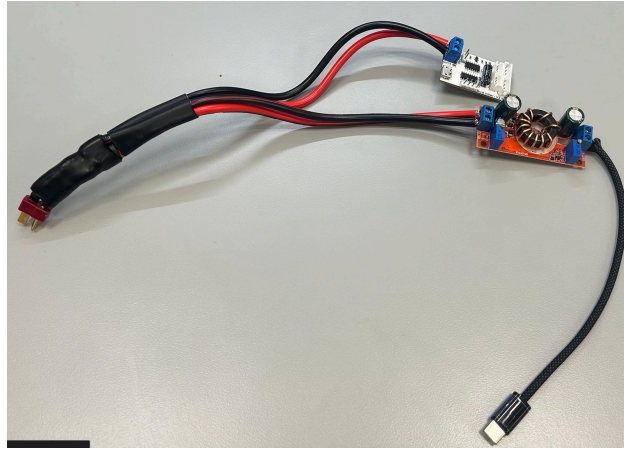

Figure 1: Soldered T-Connector to two Ys. One powers the servo board, one connects to the DC step down, and then to the RaspberryPi
- Plug the USB-C terminal into the Raspberry Pi power. See **Figure 1** for the final soldered connector.